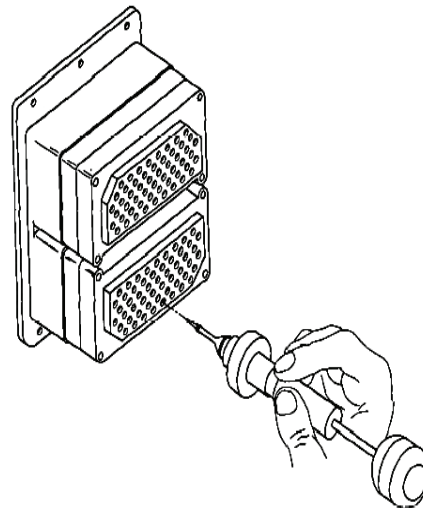

Figure 21. Extracting Contact from Connector
f. Remove tool and unlocked contact from connector by withdrawing tool from connector (Figure 21).